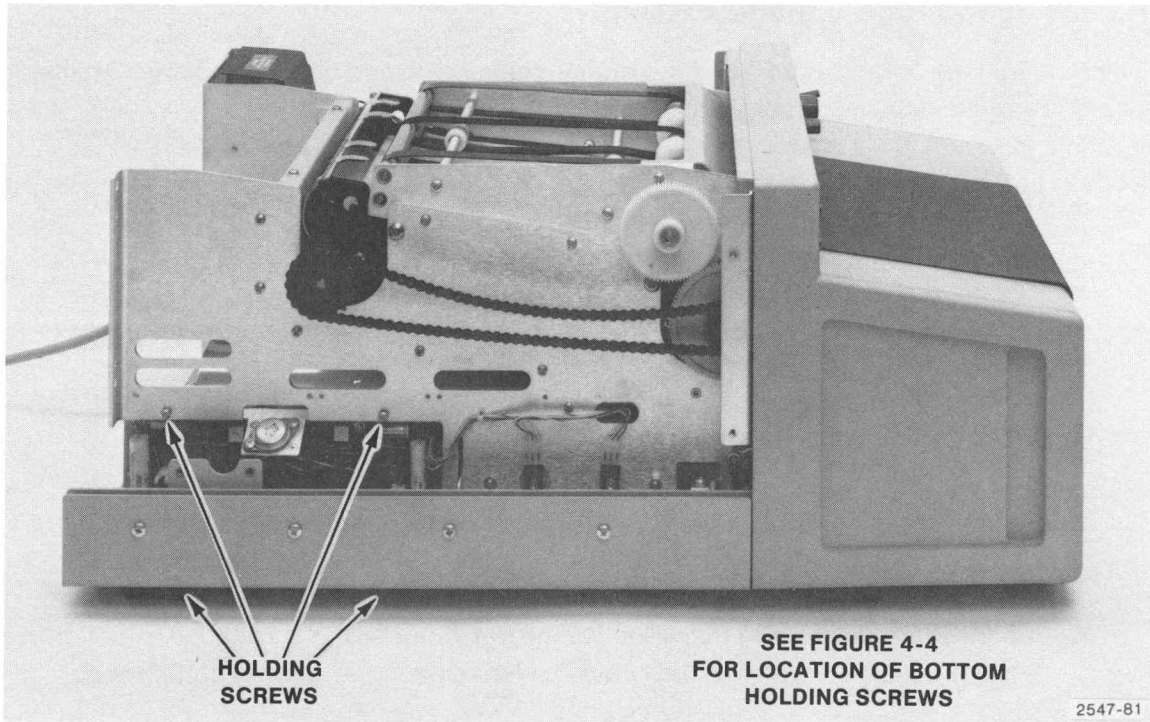

Figure 4-6. Screws Holding the High Voltage Assembly.
4. Turn the instrument upright again. Using a POZIDRIV screwdriver, remove the holding screw (Figure 4-6). Remove also the threaded stand-off in the lower left corner of the mainframe (Figure 4-6). The High Voltage Assembly should now be loose.